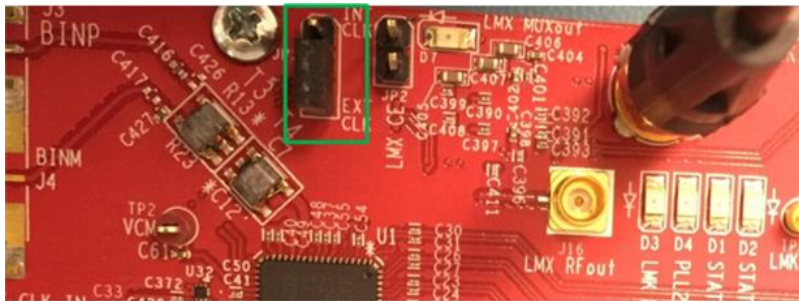

Figure 2. JP3 Setting for Ext Clock Enable
- (a) Use two length-matching SMA cables, one to connect from J15 of the DLC to the LMK CLKIN (J7) of the ADC32RFxx EVM; one to connect from J16 of the DLC to the ADC CLK IN (J5) of the ADC32RFxxEVM. Check jumper JP3 on ADC32RFxx EVM and make sure 2-3 is connected so external clock input is selected (see Figure 2).